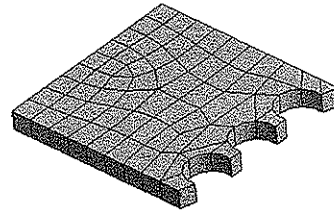

Figure 7-29 Isometric view of the model
5. To have a better view of the model and its elements, change the view to Isometric as shown in Figure 7-29.